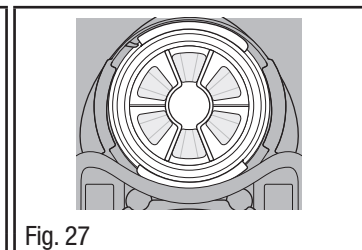

Fig. 27
4. To replace the speaking diaphragm, insert it into the facepiece opening with the speaking diaphragm wings aligned vertically (Fig. 27).